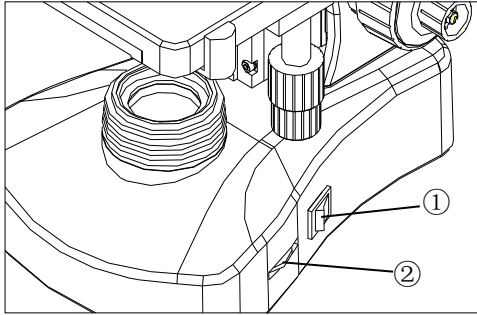

Fig.16
3.2.1 Adjusting the brightness (Fig.16)
1. Connect the power, turn on the main switch ① (figure 16) to “-”(on).
2. Turning the brightness adjustment knob② anti-clockwise, the voltage raise, and the brightness strengthen; turning it clockwise, the voltage decline, and the brightness weaken.